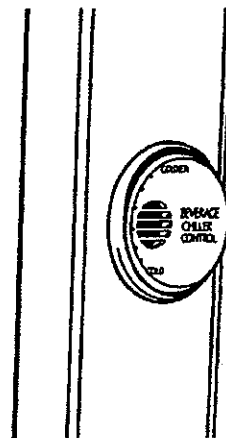

Figure 6
- a. Locate control dial on left front wall of interior refrigerator compartment. See Figure 6.